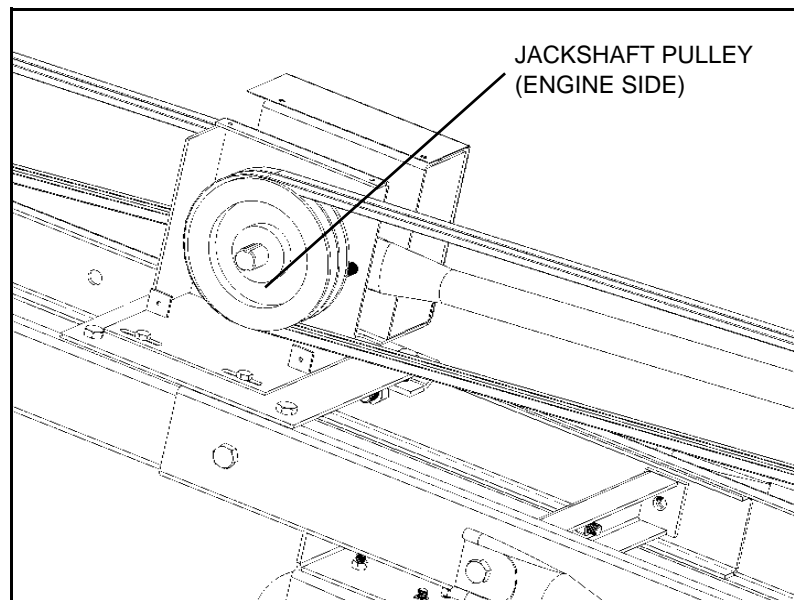

Figure 3.28 Jackshaft Input Pulley
6. Clean inside of pulley hub and shaft and install pulley (8") onto motor mount side of jackshaft assembly with a 1/4" x 1-1/2" square key (see Table 3.5 for proper size). Secure with set screws (Figure 3.28).
7. Clean inside of pulley hub and shaft and install pulley (4", not included) onto engine (not included) using a 1/4" x 1-1/2" square key (see Table 3.5 for proper size). Secure with set screws (Figure 3.28).